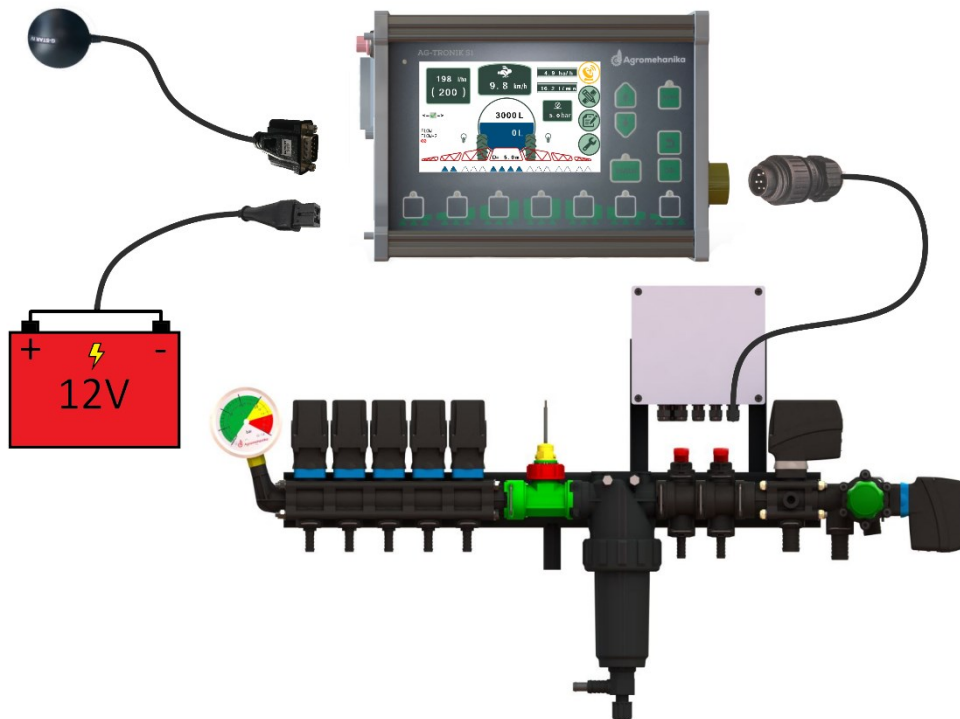

Figure 4
- Connect power supply in to the corresponding input of the AG-TRONIK (Figure 4).
- Connect regulator cable in to the corresponding input of the AG-TRONIK (Figure 4).
- Connect antenna in to the corresponding input of the AG-TRONIK (Figure 4).